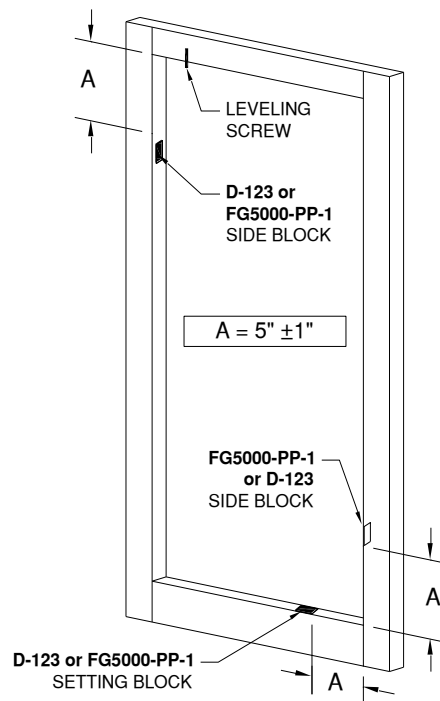

Figure 38: Locating Setting Blocks / Side Blocks
13.2.2 Install **FG5000-PP-1** or **D-123** Setting Blocks / Side Blocks per Figure 38. The blocks are adhesive backed for easy installation. Blocks may be doubled as required to compensate for glass tolerances.